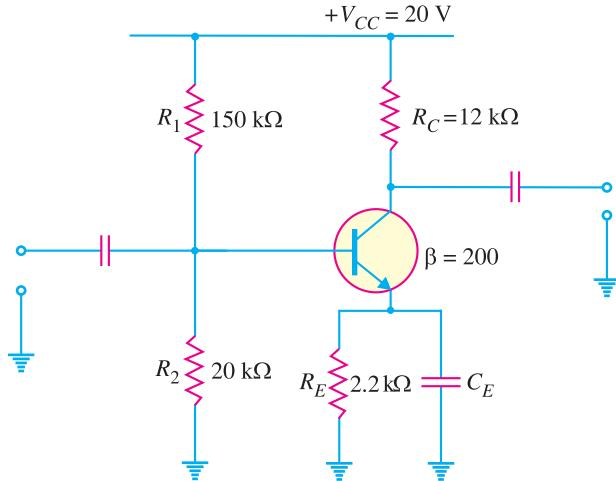

Fig. 10.30
**Example 10.14.** For the amplifier circuit shown in Fig. 10.30, find the voltage gain of the amplifier with (i)  $C_E$  connected in the circuit (ii)  $C_E$  removed from the circuit.